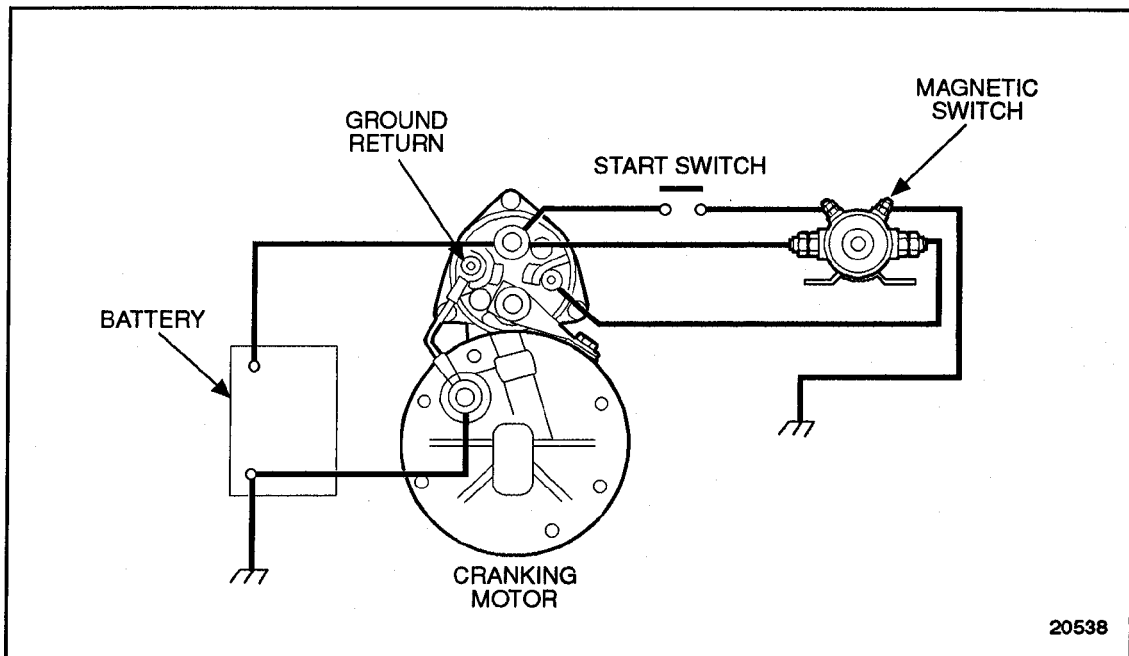

Figure 17-2 Basic Cranking Circuit
2. Clamp a heavy gauge battery jumper cable between the two large studs of the magnetic switch. See Figure 17-2.
2. Place the black voltmeter lead to the starter ground terminal, see Figure 17-2.